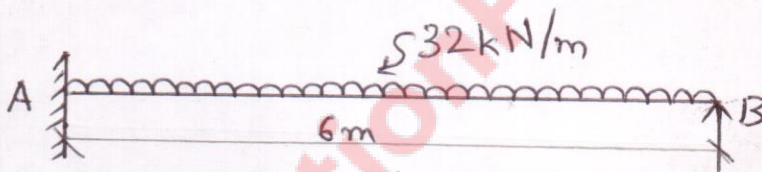

Fig. 4, Q. 3(b) OR
- (b) Draw B.M. dia. for a propped cantilever beam as shown in Fig.4. 03